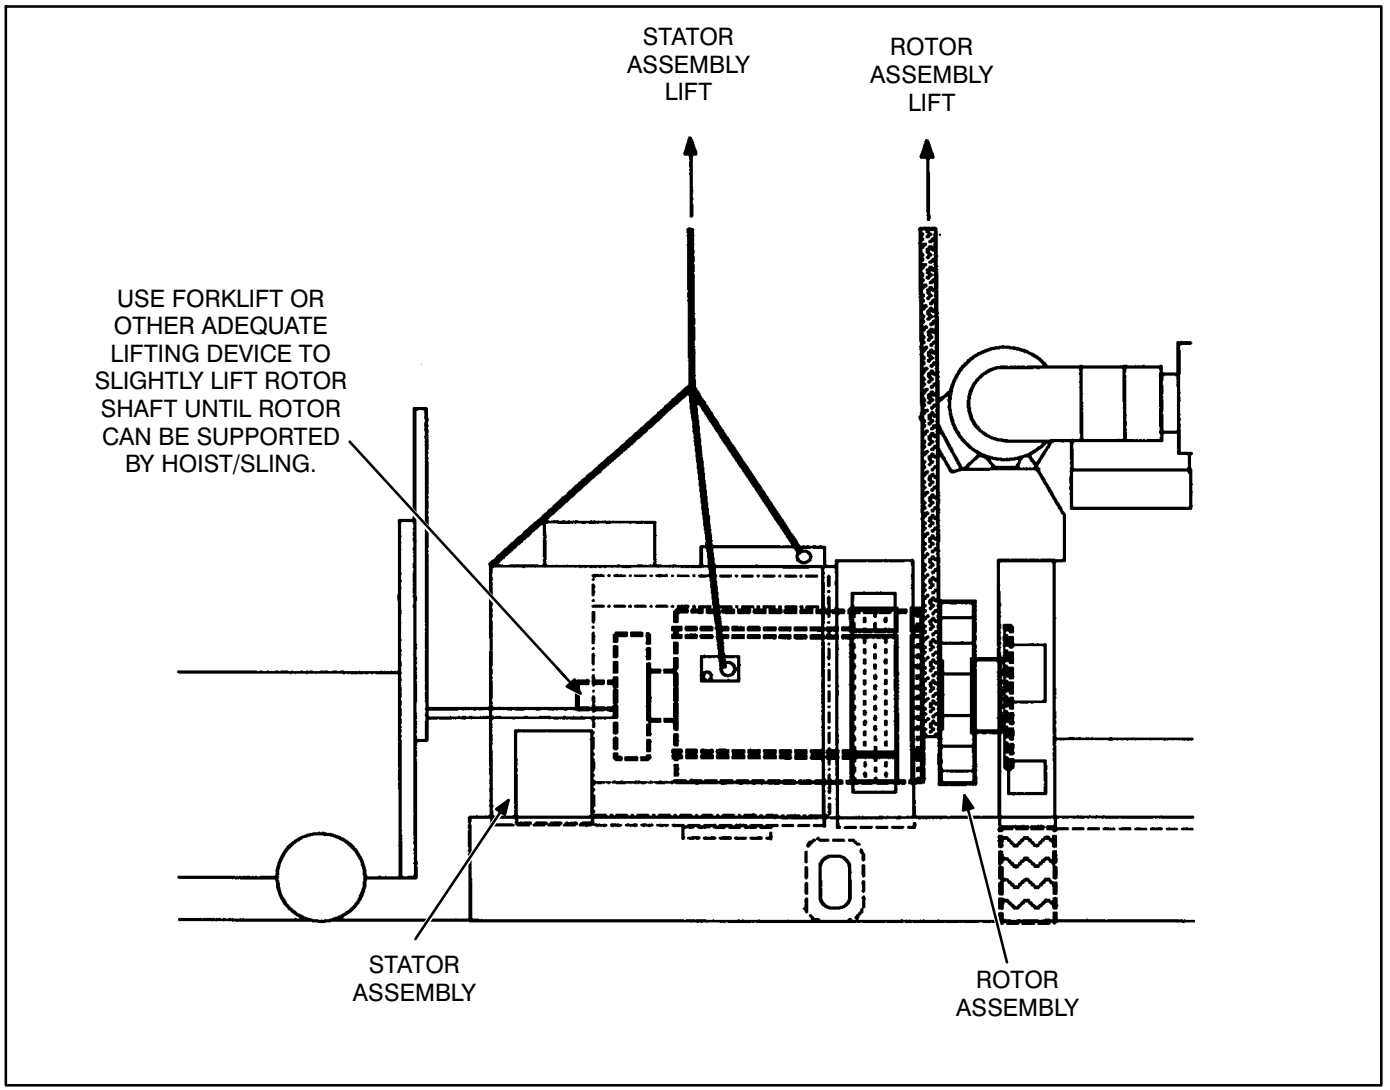

FIGURE 6-12. REMOVING HC6 STATOR ASSEMBLY
19. Using an adequate lifting device, lift the alternator (at lifting eyes provided, and main stator housing) until the mounting feet brackets are clear of the frame member (see Figure 6-12 or 6-13).
21. Using a forklift, position a lifting bar of the forklift (inside and inline with the alternator) under the rotor shaft. Lift the rotor shaft slightly so that rotor is not resting on inside of stator assembly. See Figure 6-12 or 6-13.